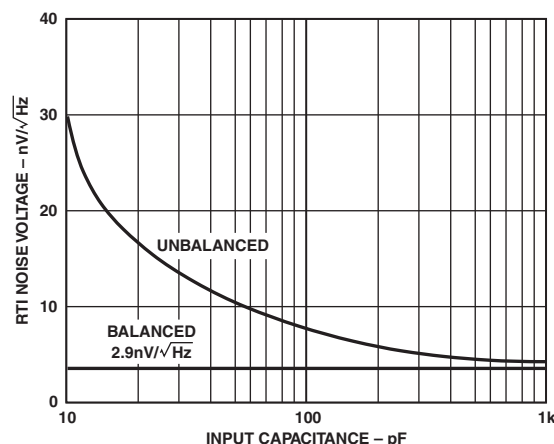

Figure 20. RTI Noise Voltage vs. Input Capacitance
As mentioned previously, it is good practice to balance the source impedances (both resistive and reactive) as seen by the inputs of the AD745. Balancing the resistive components will optimize dc performance over temperature because balancing will mitigate the effects of any bias current errors. Balancing input capacitance will minimize ac response errors due to the amplifier's input capacitance and, as shown in Figure 20, noise performance will be optimized. Figure 21 shows the required external components for noninverting (A) and inverting (B) configurations.